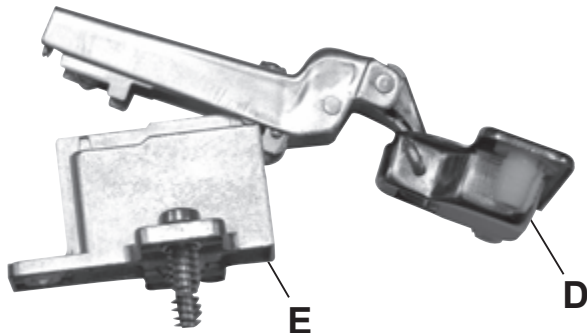

Fig. 1
1. Lay the Doors (A) face down on a clean protected surface. Snap the handle of the Hinge (D) down on to each of the Hinge Plates (E) as seen in Figures 1 and 1a.